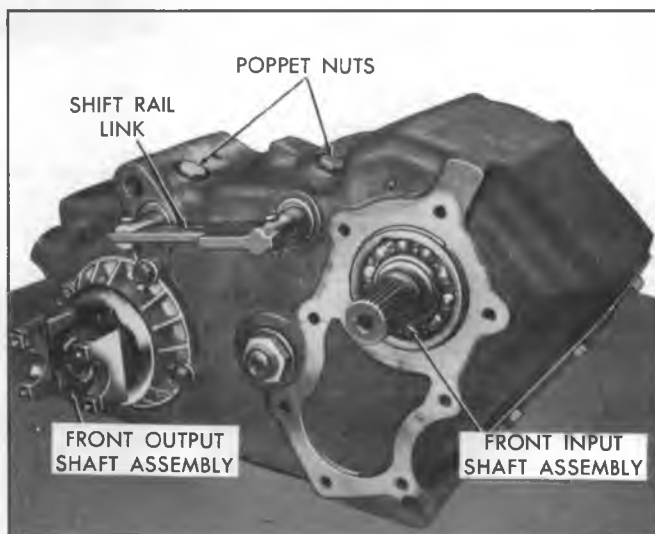

Fig. 3C--Front View of Transfer Case
**Front Output Shaft Assembly (fig. 3C)**